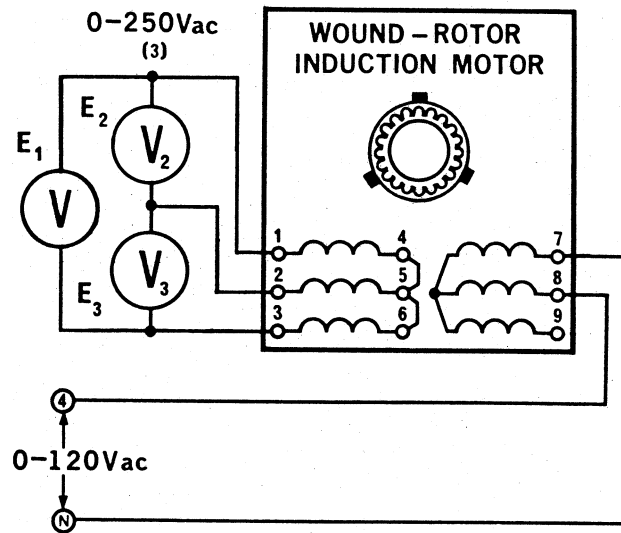

Figure 17-1.
- 1. Using your Three-Phase Wound-Rotor Induction Motor and AC Voltmeter, connect the circuit shown in Figure 17-1. Note that rotor terminals 7 and 8 are connected to the variable 0-120 V ac output of the power supply, terminals 4 and N.